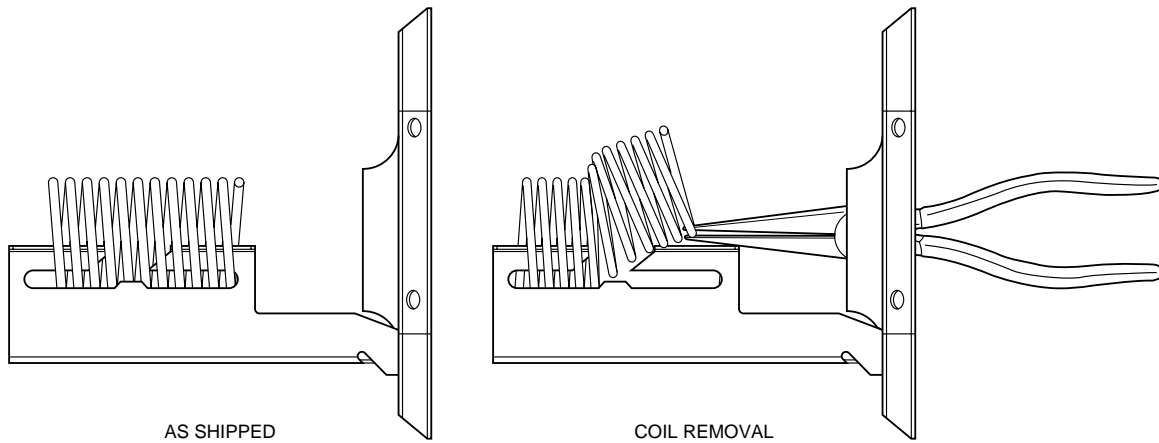

Fig. 13—Removal of Low NO_x
For 58UXT, 58DXT, 58UHV, 330JAV, 331JAV and 333BAV, remove NOx emissions-reducing device as follows: Using needle nose pliers, remove coil from bracket on each heat exchanger cell inlet plate. (See Fig. 13.)
13. For units equipped with NOx devices, NOx coil must be removed. (See Fig. 13.)